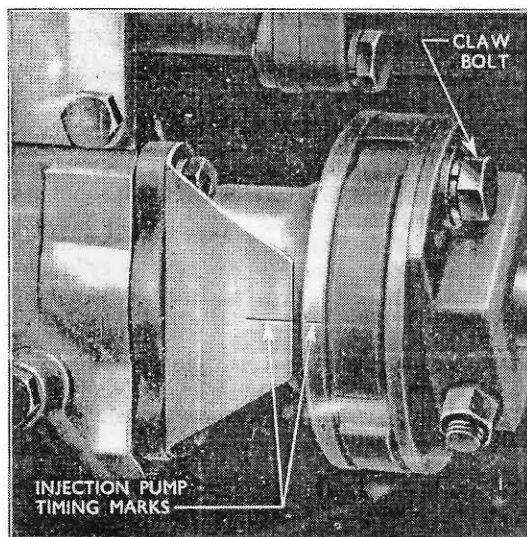

Fig. 6.
2. If correctly timed the injection pump driven coupling timing mark should be in line with the timing plate fitted to the front of the pump (see Fig. 6). If this is not so, slacken the two claw bolts on the driving coupling and move the driven coupling until the timing marks coincide. Tighten the claw bolts securely.